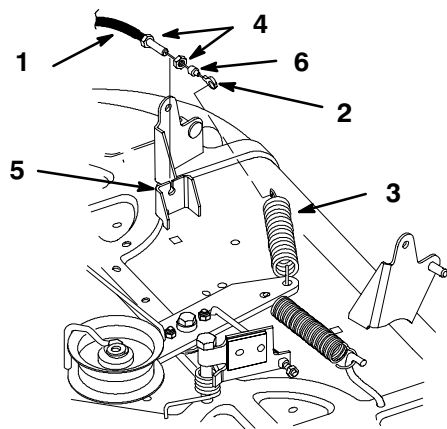

Figure 43
9. Remove the rubber wiper and first jam nut. Thread the second jam nut onto the blade control (PTO) cable all the way. Route the cable through the slot in the deck bracket and thread the second jam nut onto the cable (Fig. 43).
10. Hook the end of the blade control (PTO) cable onto the idler spring (Fig. 43).